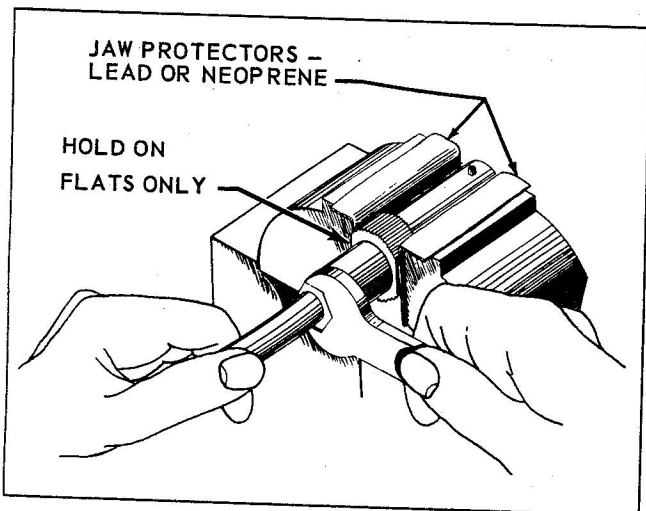
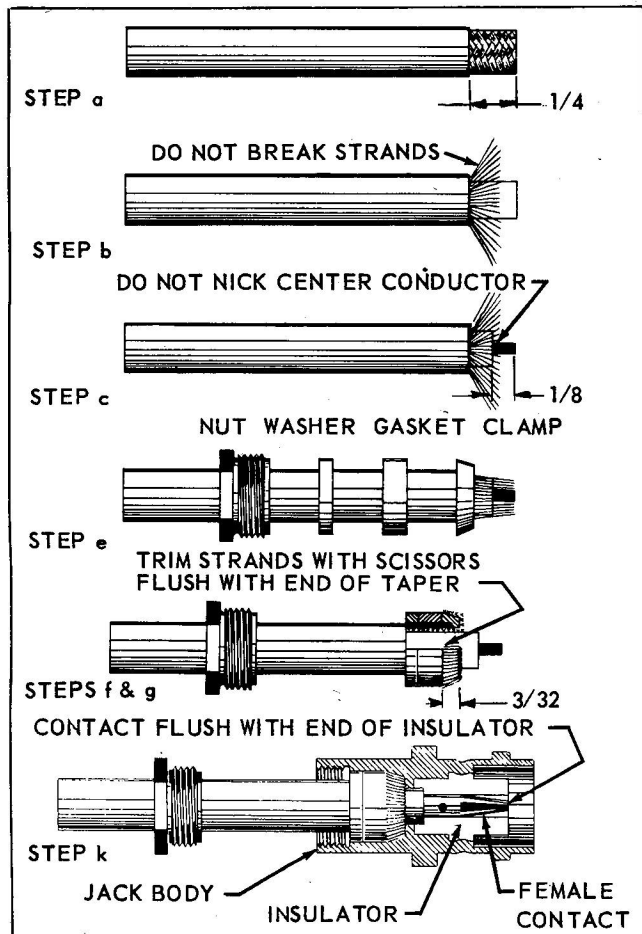

Figure 4-13. Tightening Nut into Plug or Jack Body
Figure 4-19. Attaching Standard BNC Connectors to Coaxial Cable
4-24. When assembling the connector always start the clamping nut into the body by hand, then hold the body assembly in a vise using lead or neoprene jaw protectors. See Figure 4-13. Hold body only on the flats. Do not use excessive pressure, since the body can be easily distorted. Tighten nut with end wrench.
4-31. ATTACHING STANDARD BNC CONNECTORS TO COAXIAL CABLE. When attaching standard BNC connectors to coaxial cable (see Figure 4-19), follow this procedure:
- k. Push cable assembly into connector body as far as it will go. Slide nut into connector body and fasten body in vise. Start nut by hand and tighten with end wrench until moderately tight. See Figure 4-13.
k. Push cable assembly into connector body as far as it will go. Refer to Figure 4-19, step k. Slide nut into connector body and fasten body in vise. Start nut by hand and tighten with end wrench until moderately tight. See Figure 4-13.
k. Push cable assembly into connector body as far as it will go. Make sure gasket is properly seated, with sharp edge of sleeve clamp entering gasket groove. Slide nut into connector body and fasten in vise. Start nut by hand and tighten with end wrench until enough pressure is applied to make a good seal by splitting the gasket. See Figure 4-13.